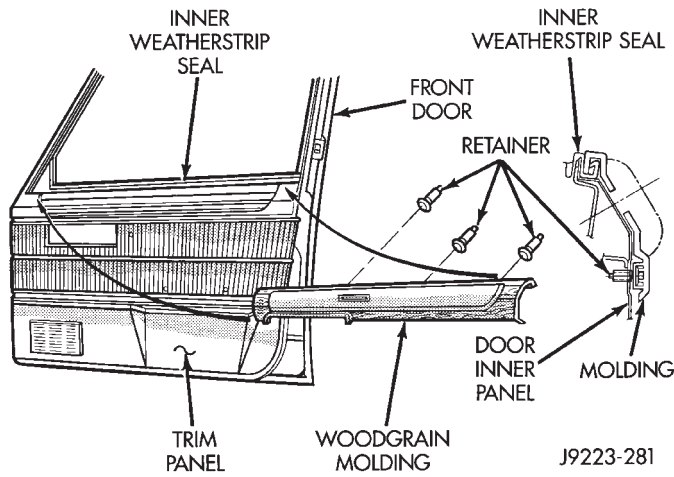

Fig. 11 XJ Woodgrain Moulding—Front Door
(6) For XJ vehicles, remove the woodgrain moulding from the door inner panel and the inner weatherstrip seal (Figs. 11 and 12).